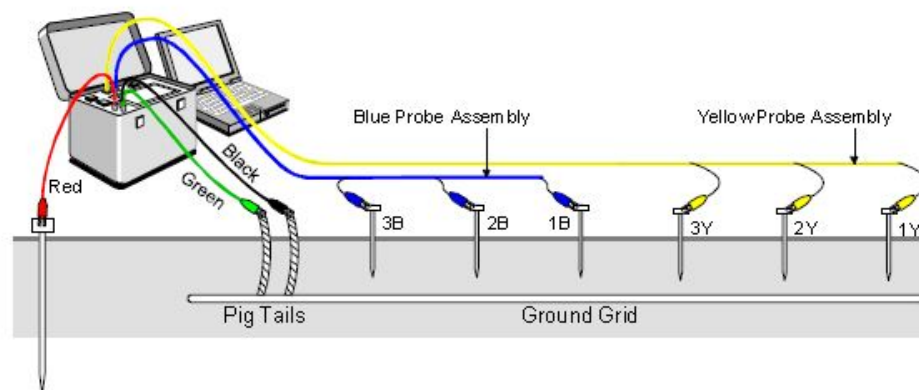

Figure10. Slandered Probe Arrangements for Touch Voltage Measurements
This section illustrates the procedure for performing touch voltage measurements with the SGM. The general configuration of the SGM setup is illustrated in figure10. Step-by-step instructions for setting up and performing this measurement are given next.
1. Install the voltage probe assemblies Y (yellow) and B (blue) and the current return electrode (see note above). Use the standard arrangement ST1, which is illustrated in Figure 10. Install the current return electrode at an approximate distance of at least 2.0 times the maximum linear length of the grounding system.